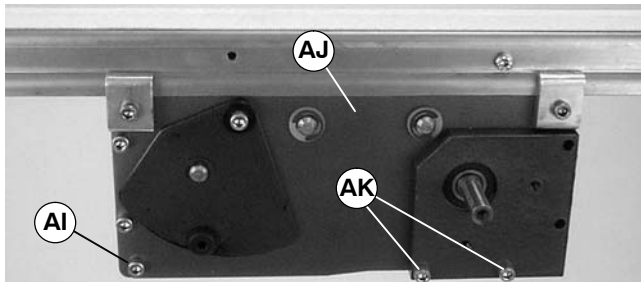

Figure 19
3. Loosen screw (AI of Figures 19 & 20) on each side of center drive module (AJ).
4. Remove screws (AK of Figures 19 & 20) on each side of center drive module (AJ).
7. Loosen screw (AI of Figures 19 & 20) on each side of center drive module (AJ).
8. Remove screws (AK of Figures 19 & 20) on each side of center drive module (AJ).